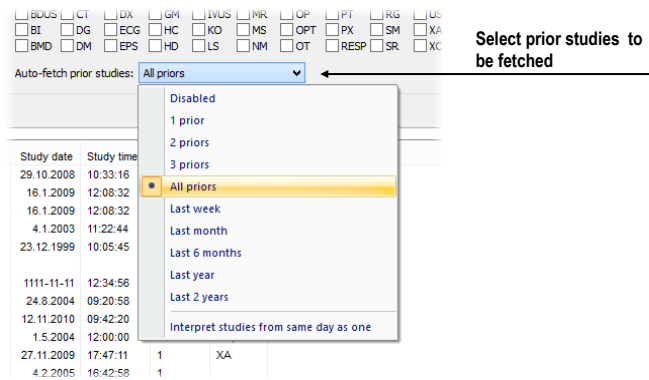

Figure 126 – Specifying which prior studies should be received
4. Set the parameters of the prior studies filter (see Figure 126), which defines the group of automatically added prior studies of the selected study in the worklist.